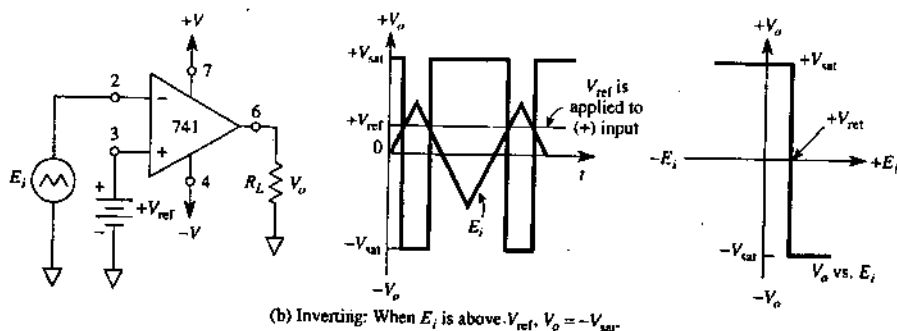

FIGURE 2-5 (continued)
In Fig. 2-5 a positive reference voltage  $V_{ref}$  is applied to one of the op amp's inputs. This means that the op amp is set up as a comparator to detect a positive voltage. If the voltage to be sensed,  $E_i$ , is applied to the op amp's (+) input, the result is a *noninverting positive-level detector*. Its operation is shown by the waveshapes in Fig. 2-5(a). When  $E_i$  is above  $V_{ref}$ ,  $V_o$  equals  $+V_{sat}$ . When  $E_i$  is below  $V_{ref}$ ,  $V_o$  equals  $-V_{sat}$ .
If  $E_i$  is applied to the inverting input as in Fig. 2-5(b), the circuit is an *inverting positive-level detector*. Its operation can be summarized by the statement: When  $E_i$  is above  $V_{ref}$ ,  $V_o$  equals  $-V_{sat}$ . This circuit action can be seen more clearly by observing the plot of  $E_i$  and  $V_{ref}$  versus time in Fig. 2-5(b).
**FIGURE 2-5** Positive-voltage-level detector, noninverting in (a) and inverting in (b). If the signal  $E_i$  is applied to the (+) input, the circuit action is noninverting. If the signal  $E_i$  is applied to the (-) input, the circuit action is inverting.